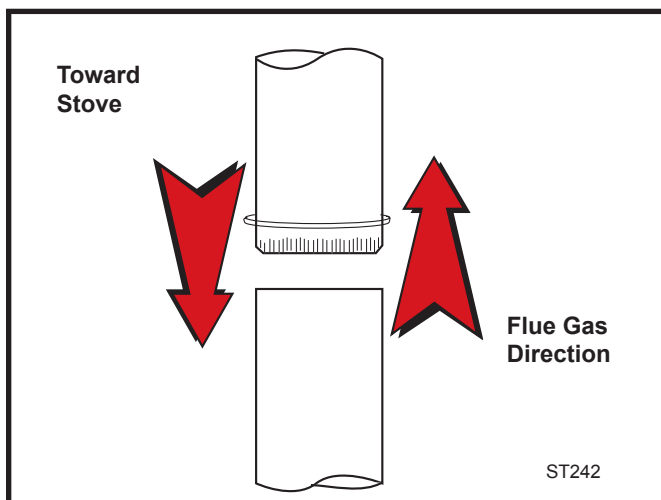

Fig. 4 Crimped sections always point toward the stove so that any liquid condensation will not leak out.
1. Insert the crimped end of the first section into the stove's flue collar, and keep each crimped end pointing toward the stove. (Fig. 4) Using the holes in the flue collar as guides, drill 3 mm (1/8") holes in the bottom of the first section of chimney connector and secure it to the flue collar with three #10 x 1/2" sheet metal screws.